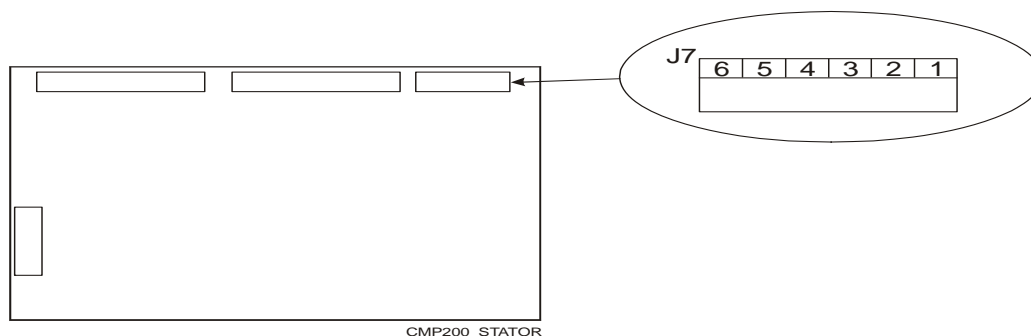

Figure 2-4: Stator connections to H.V. auxiliary board
Refer to figure 2-4 for the X-ray tube stator and thermal switch connections.
1. Route the X-ray tube stator cable to the stator terminal block J7 on the H.V. auxiliary board. This is shown in figure 2-4.